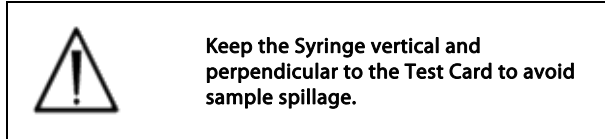

Figure 1
1. Hold the syringe barrel vertically between finger tips and thumb (**Figure 1**).